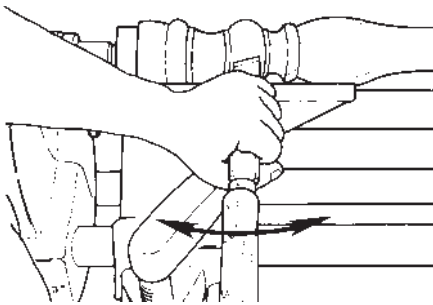

Figure C-46
a. Cut the beads first. Feed the edge of a skew chisel slowly into the stock, then move the handle of the skew from side to side as needed to shape the beads. See Figure C-46.